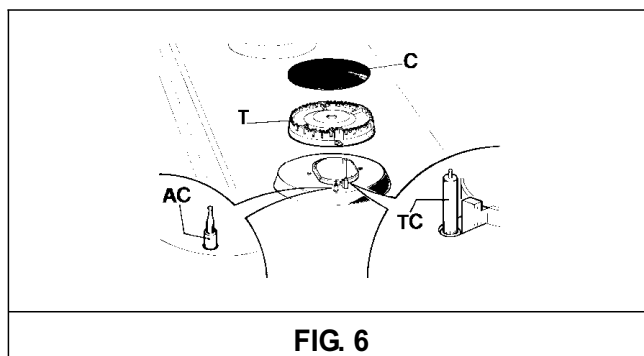

FIG. 6
Periodically wash the hot plate, the enamelled steel pan support, the enamelled burner caps “C” and the burner heads “T” (see fig. 6) with lukewarm soapy water. Following this, all parts should be thoroughly rinsed and dried. Never wash them while they are still warm and never use abrasive powders. Do not allow vinegar, coffee, milk, salted water, lemon or tomato juice from remaining in contact with the enamelled surfaces for long periods of time.
- ***check that burner head slots “T” (fig. 6) have not become clogged by foreign bodies.***
- ***Check that enamelled burner cap “C” (fig. 6) have correctly positioned on the burner head. It must be steady.***